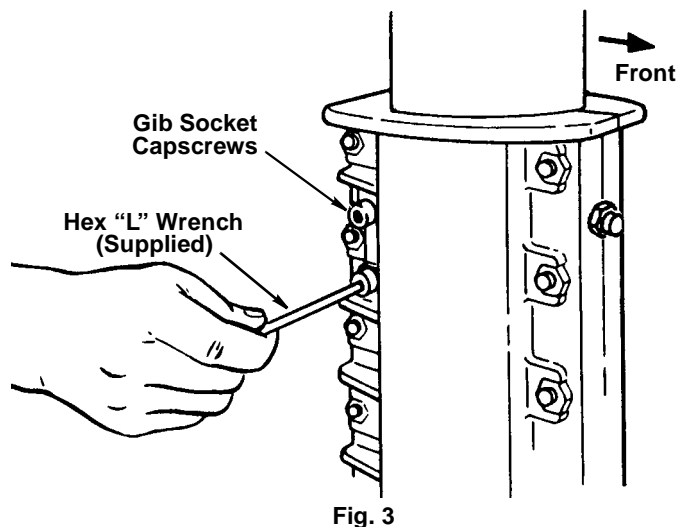

Fig. 3
Tighten the (2) 1/4-20 Gib socket cap screws until no noticeable rotational play exists. (Fig. 3).